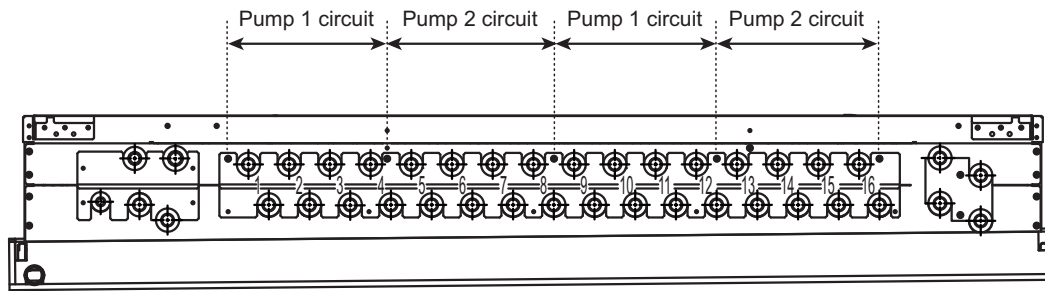

Fig. 6-2-1B
- ♦When connecting junction pipes to HBC ports, the branched sides of the junction pipes cannot be connected to combinations of ports "4 and 5," "8 and 9," or "12 and 13." (See Fig. 6-2-1B.)
- ♦HBC has two pumps. Each pump can accommodate the capacity of indoor units equivalent to P175. Make sure that the total capacity of the indoor units connected to "ports 1 through 4 and 9 through 12" or "5 through 8 and 13 through 16" will not exceed P175. (See Fig. 6-2-1B.)
- When connecting junction pipes to HBC ports, the branched sides of the junction pipes cannot be connected to combinations of ports "4 and 5," "8 and 9," or "12 and 13." (See Fig. 6-2-1B.)
Make sure that the total capacity of the indoor units connected to "ports 1 through 4 and 9 through 12" or "5 through 8 and 13 through 16" will not exceed P175. (See Fig. 6-2-1B.)